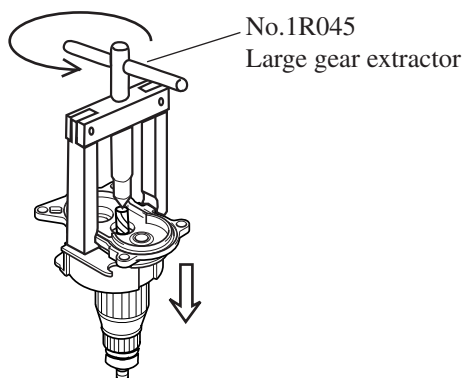

Fig. 14
- (7) Disassemble armature from gear housing with No.1R045 "large gear extractor" as illustrated in Fig. 14.